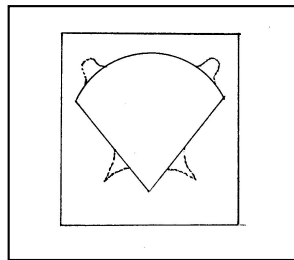

figure 5
- 2) Plan the placement of the tabs so that when bent up around the piece, it won't be able to slip out in any direction (remember your fingers and the CD?). Add the tabs to the drawing (figure 5). Cut out the paper model and try it on the piece to ensure a good fit. You will probably notice that the tabs will need to be a bit longer than anticipated. Remember - the tabs need not be rectangular in shape.